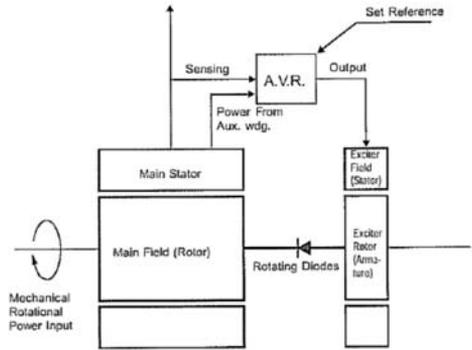

Figure. 12.1. Meccalte alternator, operating principles block schematic diagram
The electrical power produced by the generating set is derived from a closed loop system consisting principally of the exciter rotor the main revolving field and the automatic voltage regulator (see Figure 12.1) The process begins when the engine starts to rotate the internal components of the alternator. The residual magnetism in the main rotor produces a small alternating voltage (AC) in the main stator. The automatic voltage regulator rectifies this voltage (converts it to DC) and applies it to the exciter stator.